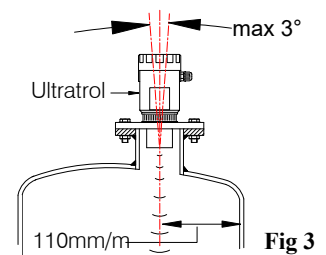

Fig 3
- Distance between tank wall and transmitters center line should be at least 110mm/ meter of its measuring range. (fig 3)